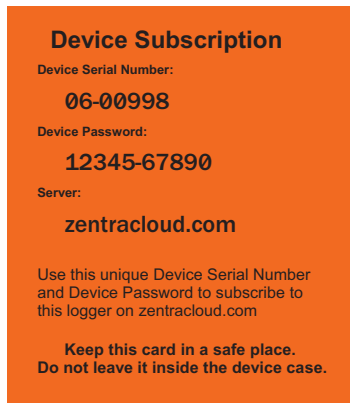

Figure 22 Device subscription card
8. Fill in the EM60G Device Serial Number and Device Password as shown on the device subscription card (Figure 22).